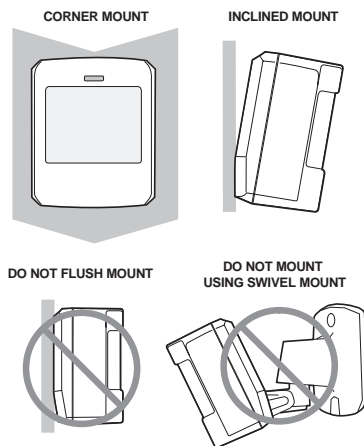
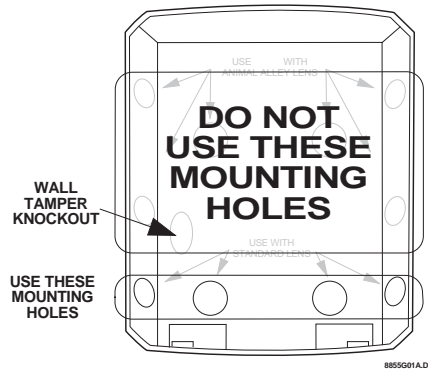

Figure 4. Wall Mount Options: Use the inclined position for surface or corner mounting.
Figure 5. PIR Mounting Plate Knockouts
- The sensor must be incline-mounted on a wall surface or incline mounted in a corner at a mounting height of 7.5 feet. See Figure 4.
2. Punch out two of the bottom four mounting holes. See Figure 4 for wall mount options. See Figure 5 to determine which knockouts to use when mounting the motion sensor. Use the lower-side holes for corner mounting, or the lower-middle holes for surface mounting.
3. If you desire wall-tamper functionality, remove the wall-tamper knockout (see Figure 5).